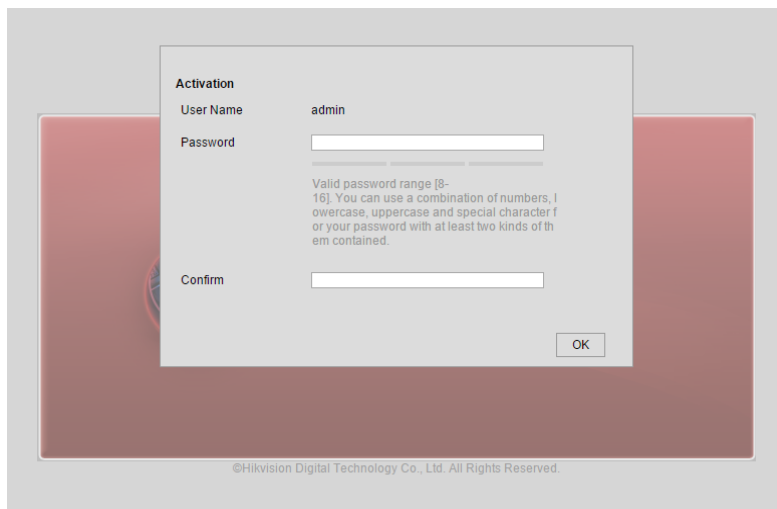

Figure 35 Activation Window
- The Activation Window will appear instead of the login page (**Figure 35**).